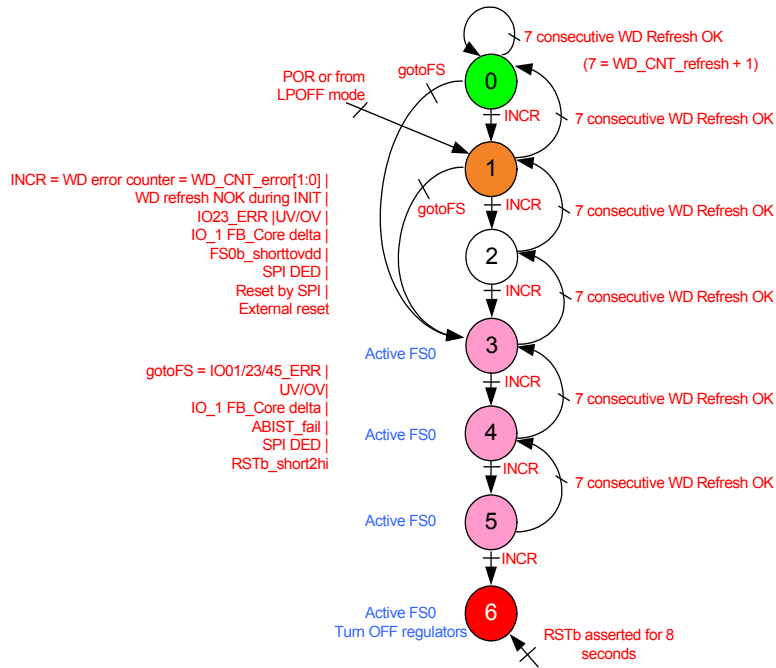

Figure 16. RSTB error counter (RSTB\_err\_FS = 0)
- RSTB\_err\_FS = 0 / Intermediate = 3; Final = 6 (Figure 16). When reset error counter reaches 6, the device goes into deep reset and fails.